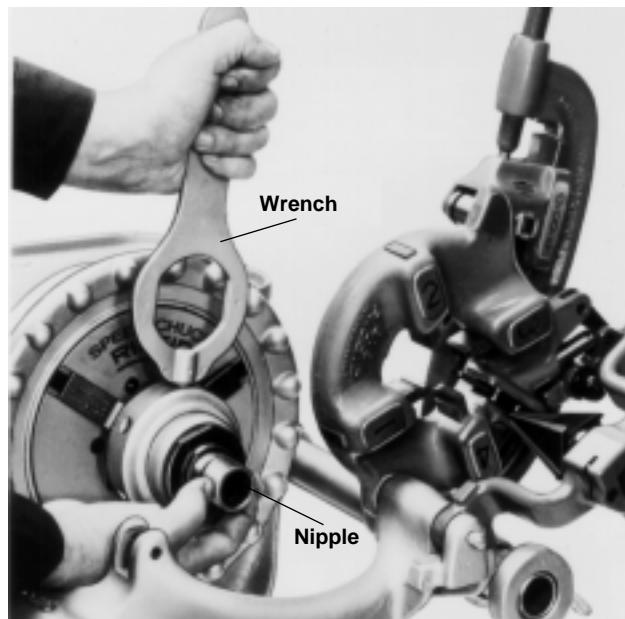

Figure 24 – Releasing Nipple from Nipple Chuck
6. Insert pin on end of Wrench (Figure 24) into one of holes in nipple chuck release collar and turn. Remove threaded nipple by hand.